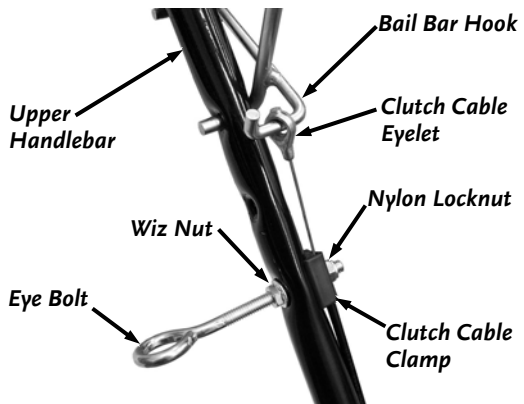

Figure 8
4. Locate the Clutch Cable, which is attached to the LLV machine on the right hand side. Slip the eyelet end on to the front Bail Bar Hook (**Figure 8**).